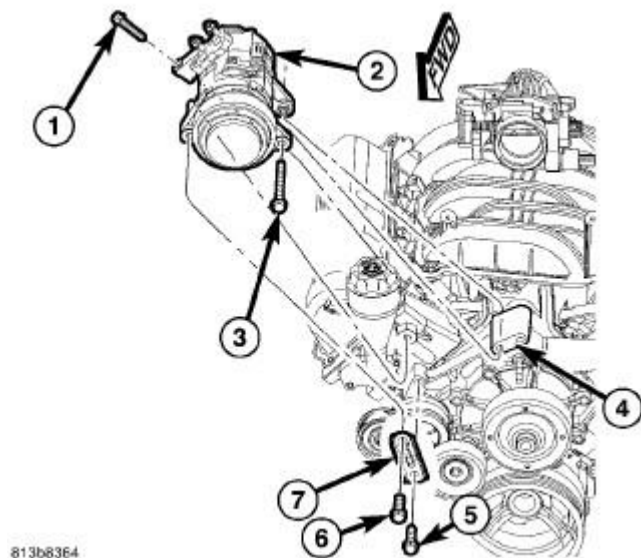

Fig. 5: A/C Compressor Removal/Installation
6. Remove A/C compressor (2) and secure away from engine. Refer to **Fig. 5**.